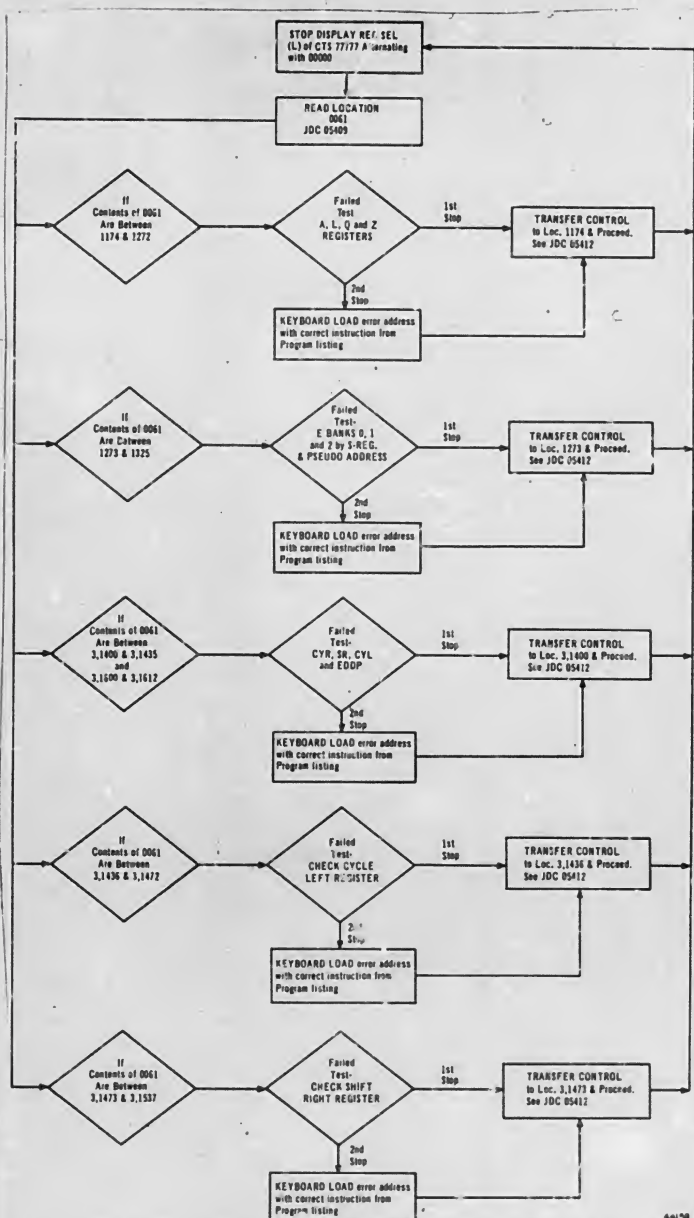

Figure 2. Stop Flowchart for Locations 1174-3, 1537
17. Compare the address read out with those specified on Figure 2 and 3. The address will be numerically within a specific group on a particular flowgram. (For example, an address read out of 1265 would pertain to the first flowgram of Figure 2. Test A, L, Q, and Z Registers.) Follow the instructions shown in the selected flowgram, and if the program fails to reach a successful conclusion discontinue further testing.